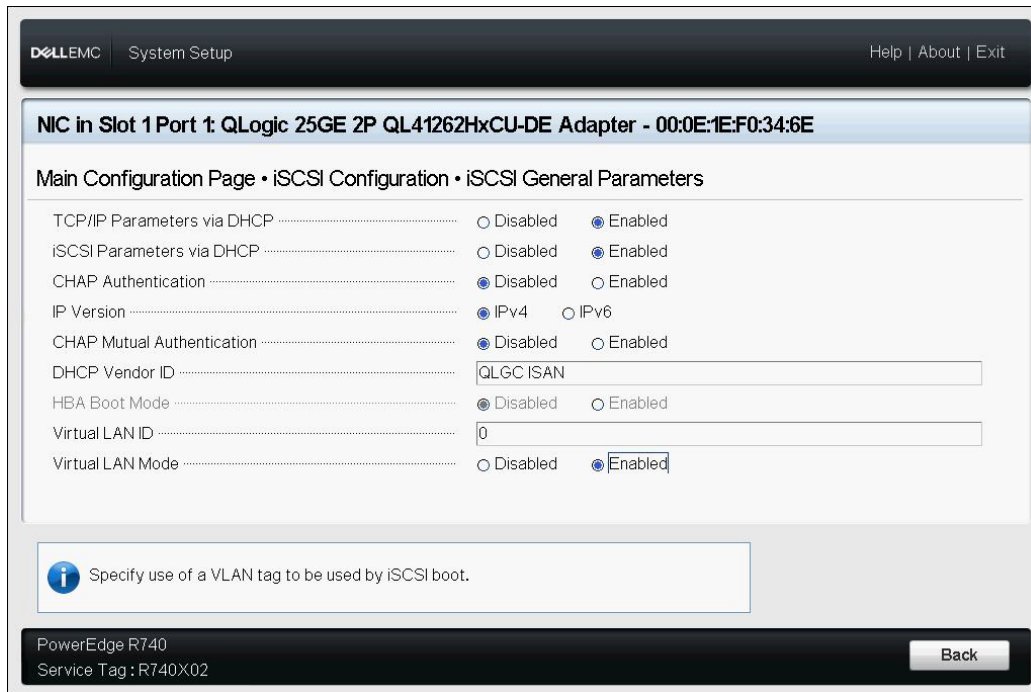

Figure 6-15. System Setup: iSCSI General Parameters, VLAN ID
3. Select **VLAN ID** to enter and set the vLAN value, as shown in Figure 6-15.